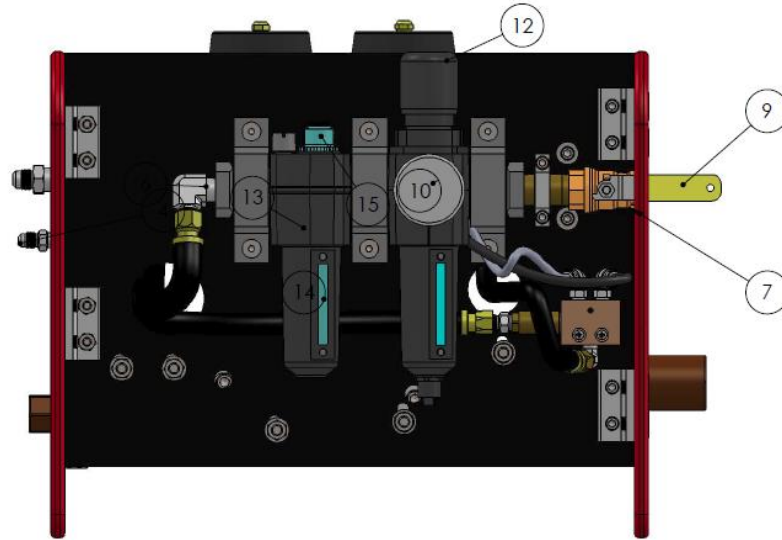

Figure 2: 408800A-2 Multimode Tumblebox, Rear View
**IMPORTANT: Do not put water into the unit until it is pressurized with the air turn ball valve handle location #9 (ref: figure 2) to close before starting.**
- Attach the inlet air line from the compressor to location #7 (ref: figure 2).
- Ensure ISO 32 hydraulic fluid is in the oiler location #13 (ref: figure 2).
- Fill through opening location #15 (ref: figure 2). Tighten the cap securely when finished.
- Use sight glass location #14 (ref: figure 2). - **DO NOT OVERFILL.**
- Verify the air inlet line from the compressor to location #7 (ref: figure 2) is now pressurized.
- Move the ball valve handle location #9 (ref: figure 2) to the straight position as shown. This will open the ball valve and pressurize the unit.
- Set the gauge location #10 (ref: figure 2) on the regulator to 100-110lbs of air pressure. Change the regulator pressure by pulling up on location #12 (ref: figure 2) and turning it clockwise to increase and counter clockwise to decrease the pressure. The greater the air pressure, the better the valves work. **DO NOT EXCEED 120 LBS OF AIR PRESSURE.**
- Verify the handle in location #9 (ref: figure 2) is turned on to open the valve.
- Turn off all air to the box, bleed off any excess, and air close the ball valve location #9 (ref: figure 2).
- Turn on the compressor and open the ball valve handle location #9 (*ref: figure 2*) allowing air into the regulator. Air should stream out of the removed hose.
- Re-pressurize the air by turning on the compressor and opening the ball valve location #9 (*ref: figure 2*) and pressurizing the air to 100-110 psi. Increase the air pressure to 120 PSI for test purposes if possible.